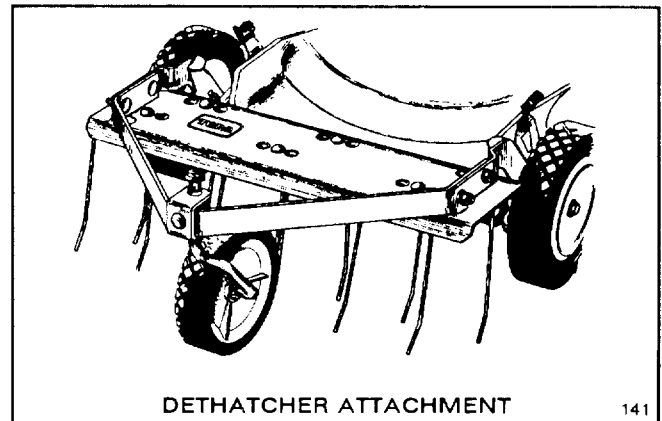

Figure 23
3. Dethatcher Kit, Model No. 59131—As spring tines on the Toro Dethatcher (Fig. 23) scratch and vibrate through the grass, thatch is loosened and cut and recut by the mower.